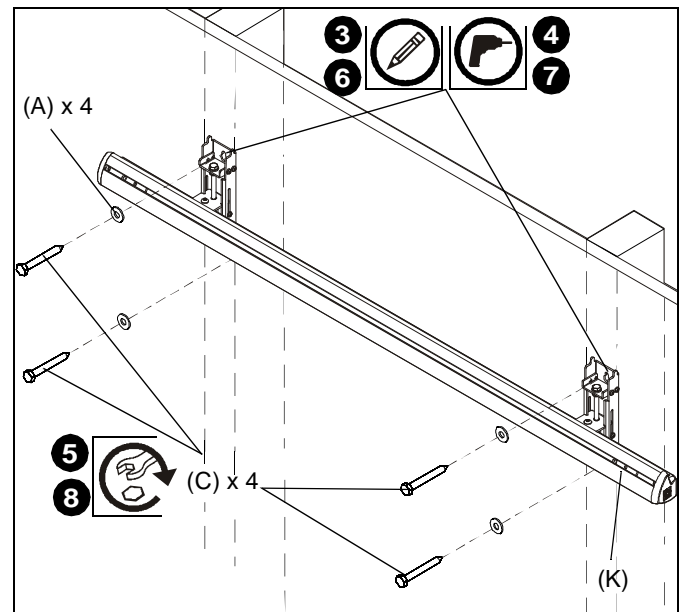

Figure 2
**NOTE:** The two WBM2 wall brackets on the wall assembly (K) must be mounted a minimum of 16" (406.4mm) apart, or a maximum of 42" (1066.8mm) apart.
3. Using a level, mark the wall on each stud above existing chalkboard through **top** mounting hole in the wall assembly (K). (See Figure 2)
4. Drill one 1/8" pilot hole in each stud. (See Figure 2)
5. Use two 1/4-20 x 2-1/2" lag bolts (C) and two 1/4" flat washers (A) to attach wall assembly (K) to wall. (See Figure 2)
6. Mark the wall through the **lower** mounting hole in the wall assembly (K). (See Figure 2)
7. Drill one 1/8" pilot hole in each stud through lower mounting hole in wall assembly (K). (See Figure 2)
8. Use two 1/4-20 x 2-1/2" lag bolts (C) and two 1/4" flat washers (A) to attach wall assembly (K) to wall. (See Figure 2)